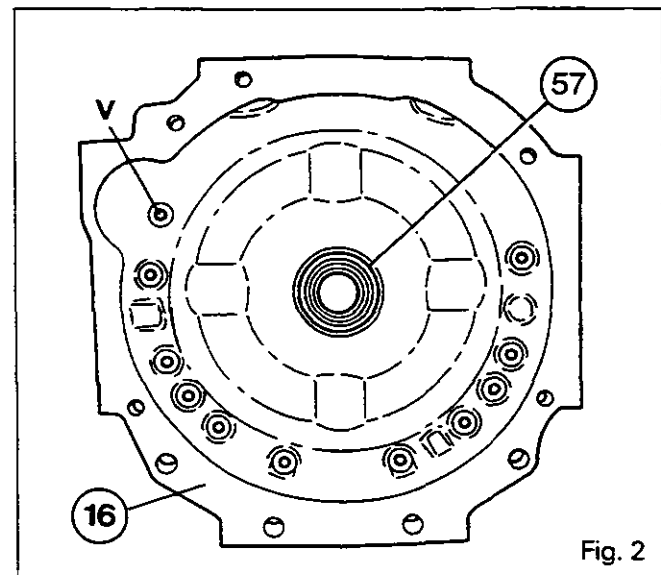

Fig. 2
- Note:** The countersunk head of bolt "V" must be correctly positioned (Fig. 2).
B. Removing and refitting the seal (Fig. 2)